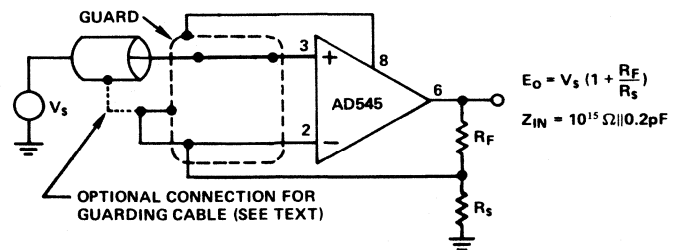

Figure 2. Very High Impedance Non-Inverting Amplifier
2. The use of guarding techniques is essential to realizing the capability of the low input currents of the AD545. Guarding is achieved by applying a low impedance bootstrap potential to the outside of the insulation material surrounding the high impedance signal line. This bootstrap potential is held at the same level as that of the high impedance line; therefore, there is no voltage drop across the insulation, and hence, no leakage. The guard will also act as a shield to reduce noise pickup and serves the additional function of reducing the effective capacitance to the input line. The case of the AD545 is brought out separately to pin 8 so that it can also be connected to the guard potential. This technique virtually eliminates potential leakage paths across the package insulation, provides a noise shield for the sensitive circuitry, and reduces common-mode input capacitance to about 0.2pF. Figure 10 shows a proper printed circuit board layout for input guarding and connecting the case guard. Figures 2 and 3 show guarding connections for typical inverting and non-inverting applications. If pin 8 is not used for guarding, it should be connected to ground or a power supply to reduce noise.